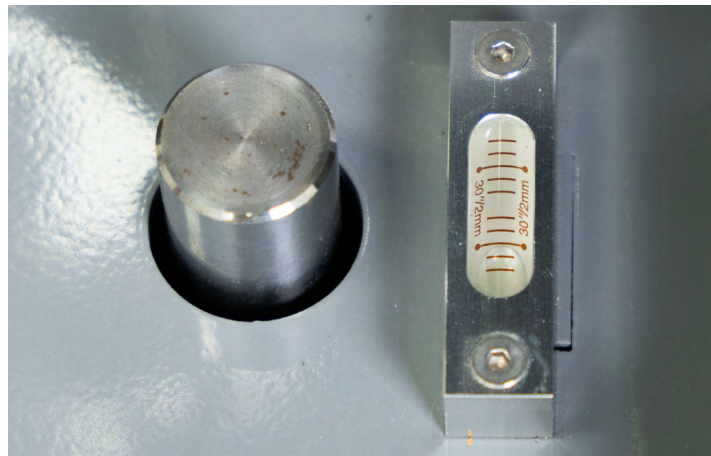

Figure 3
- c. When the bubble is toward the back of the machine, spin the leveling wheel clockwise to move it toward the center (Figure 3).